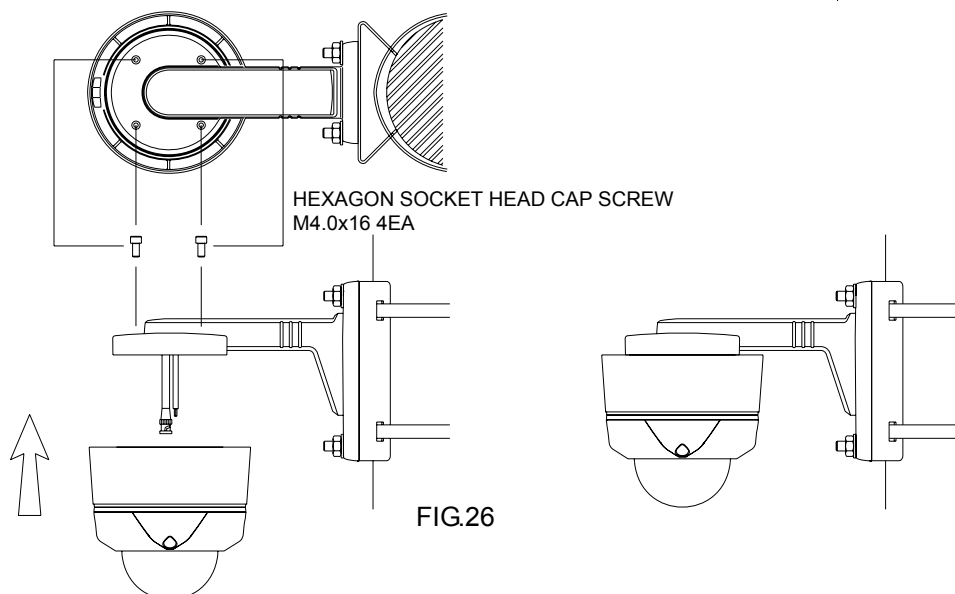

FIG.26
3. As shown FIG.26 after installing a wall mount bracket, fix a camera on the wall mount bracket. (FIG.26)